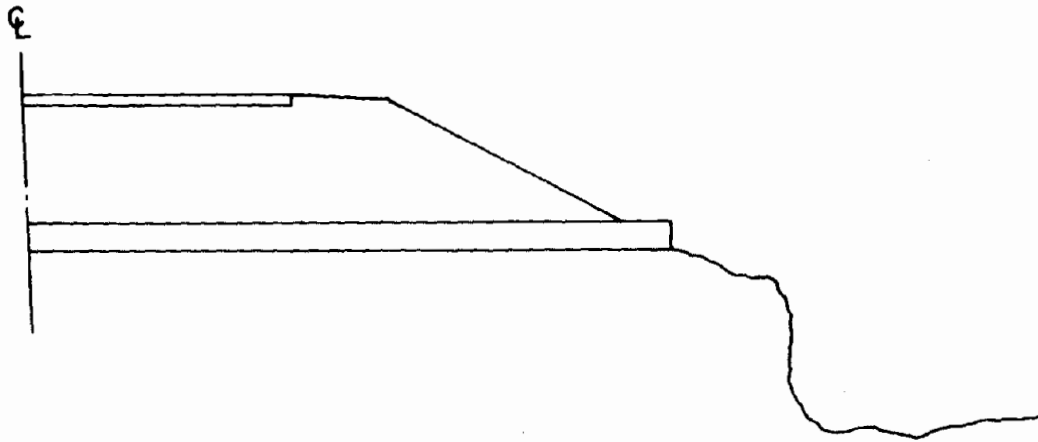

Figure 11. Short pipe-water empties on slope.
- d. Do not stop pipes too short so that water empties onto slope (figure 11).